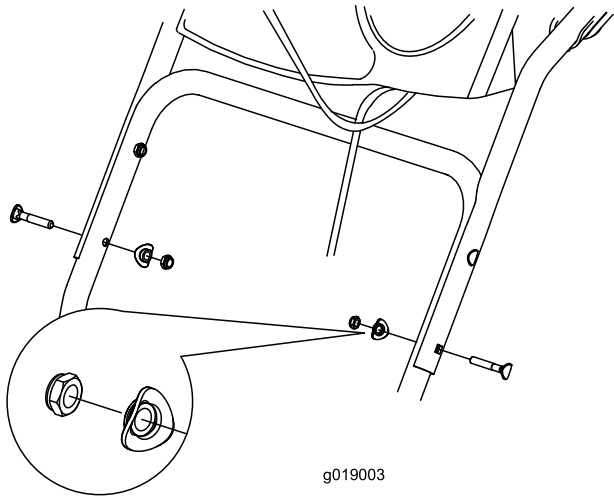

Figure 4
1. Lift and rotate the upper handle and position it over the lower handle (Figure 4).
2. Install the 2 handle bolts, 2 curved washers, and 2 locknuts in the lower-handle holes (Figure 4).